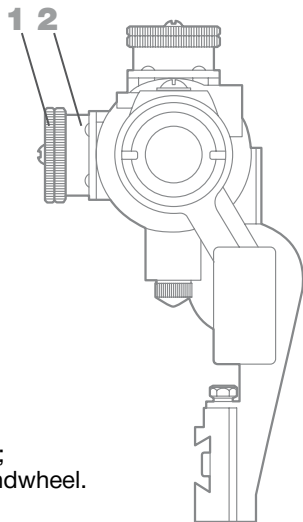

Figure 2 - P06x36
- set the elevation adjustment mechanism handwheel 2 (Figure 1) of the sight at the point «1», the windage adjustment mechanism handwheel 2 (Figure 2) – at the point «0»;
- otherwise, unscrew the screws 3 (Figure 1) by 1-2 turns on elevation and windage adjustment mechanism handwheels in accordance with Figures 1, 2, and align the aiming mark with the aiming point of the iron sight by turning nuts 1 (handwheel 2 (Figure 1) and (handwheel 2(Figure 2), must be kept in initial position);